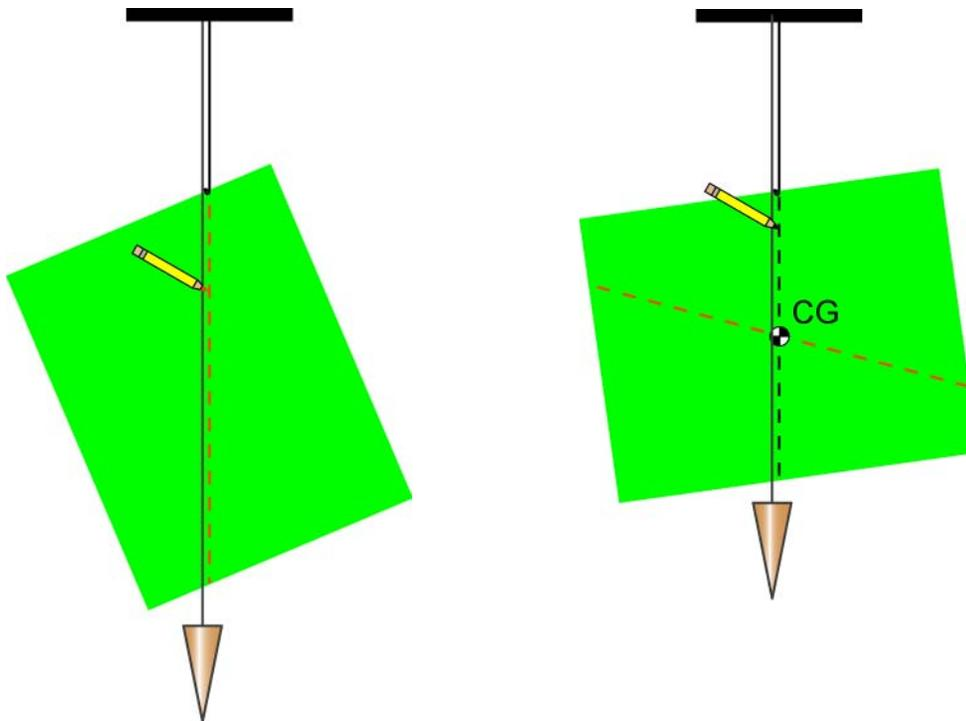

Figure 9: Locating the Center of Gravity Using a Plumb Line
- You can empirically find the center of gravity of an object by hanging it from two different points and using a plumb line to mark the vertical lines. The intersection of the two vertical lines from the plumb line is the center of gravity for the object. See Figure 9. This procedure is relatively easy for a flat object. However, it would be more difficult if the object has a three dimensional shape.